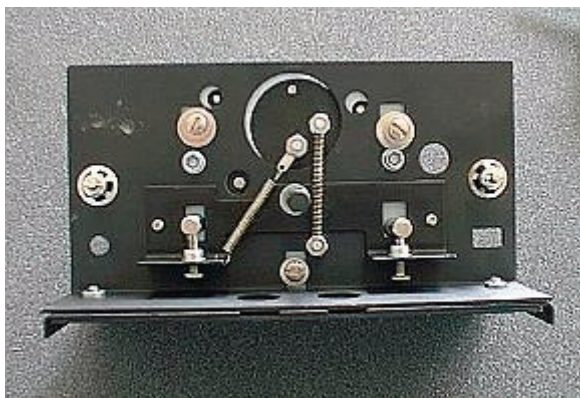

Figure 35 The screws underneath the accessory
4. Loosen the three screws on the underside of the accessory, as shown in Figure 35.
11. Tighten the two upper locking screws, as shown in Figure 34, and the three locking screws underneath the accessory, as shown in Figure 35.